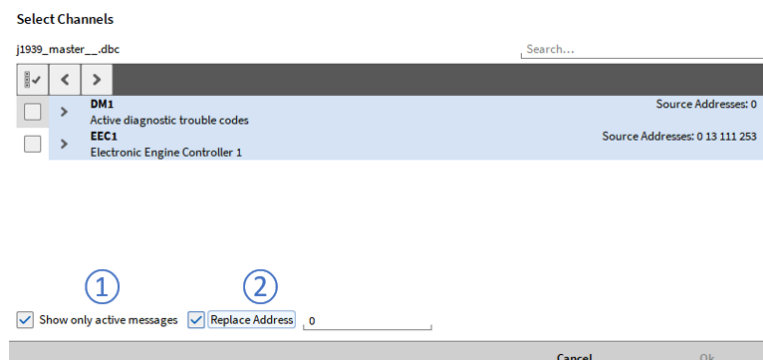

Fig. 7.212: Channel picker for SAE J1939 messages and signals
If a dbc- or arxml file is loaded that contains J1939 messages, the source Address will be displayed when Show only active messages is activated (see ① in Fig. 7.212). By Selecting Replace Address it is possible to replace the current source address of the dedicated message by a user defined one (see ② in Fig. 7.212).